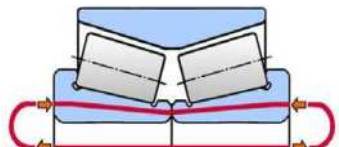

Figure 2: clearance
**Clearance** in a paired TRB arrangement allows axial movement (→ fig. 2). Clearance can easily be measured with a dial indicator.